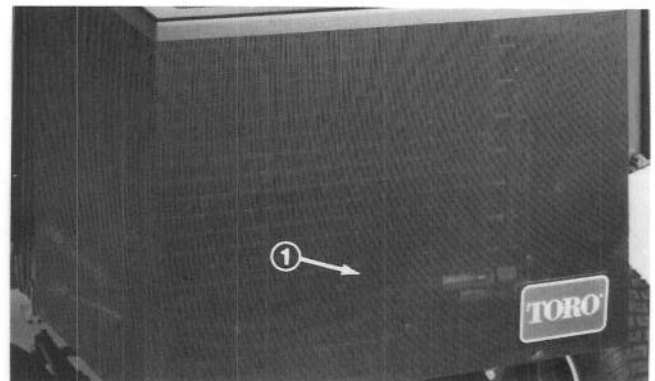

Figure 43
ENGINE COOLING SYSTEM (Fig. 43)
- B. Unscrew knobs and remove rear screen (Fig.43). Clean screen thoroughly.